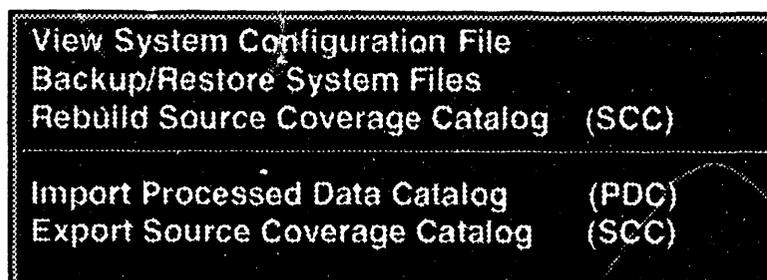

Figure 5-1. System Utilities Menu
To display the Utilities menu, click on Utilities in the CPS Executive (see Figure 2-8). This displays the pull-down menu items shown in Figure 5-1 that are described in the remainder of Section 5.
- 1- Select the **Rebuild Source Coverage Catalog (SCC)** menu item from the System Utilities menu (Figure 5-1).